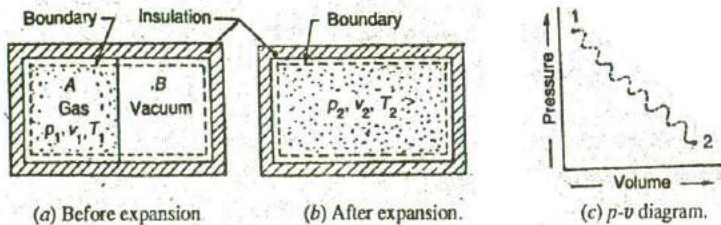

Fig. 3.23. Free expansion.
Consider two chambers A and B separated by a partition as shown in Fig. 3.23 (a). Let the chamber A contains a perfect gas having volume v_1 , pressure p_1 , and temperature T_1 and the chamber B is completely evacuated. These chambers are perfectly insulated so that no heat transfer takes place from or to its surroundings. Now, if the partition is removed, the gas will expand freely and occupy the whole space as shown in Fig. 3.23 (b). By this, the volume of the gas increases to v_2 , pressure decreases to p_2 and the temperature may also decrease to T_2 .
2. Since the free expansion of the gas from the equilibrium state 1 to the equilibrium state 2 takes place suddenly, therefore the intermediate states will not be in equilibrium states, as shown on the p - v diagram in Fig. 3.23 (c). Thus the process is irreversible and the expansion is, therefore, known as irreversible adiabatic expansion.